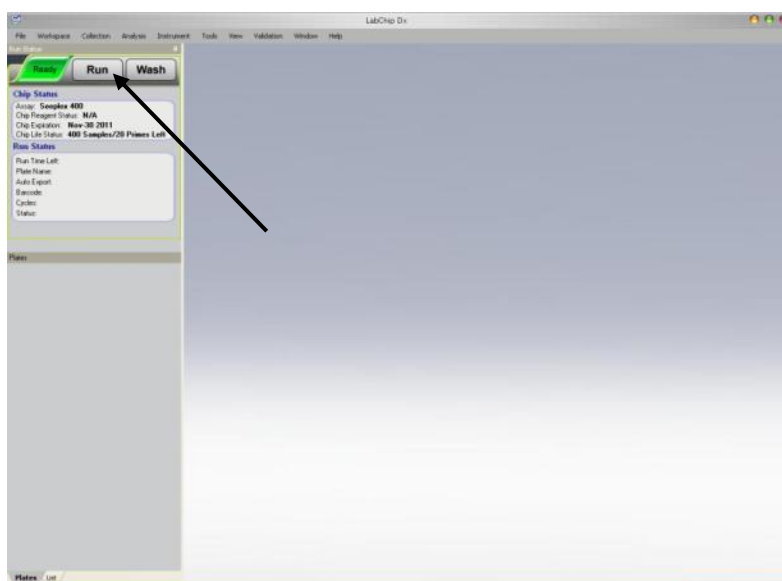

Figure 6. LabChip Dx GUI.
3. On the main screen, click the **Run** button in the upper left corner of the LabChip Dx software. See **Figure 6**.